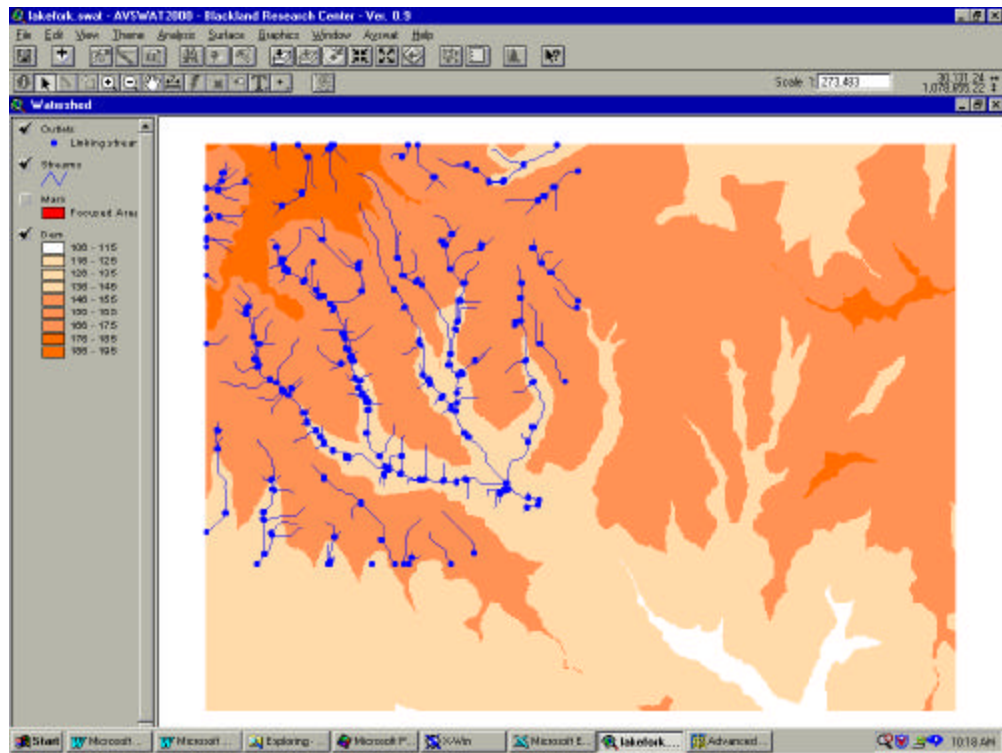
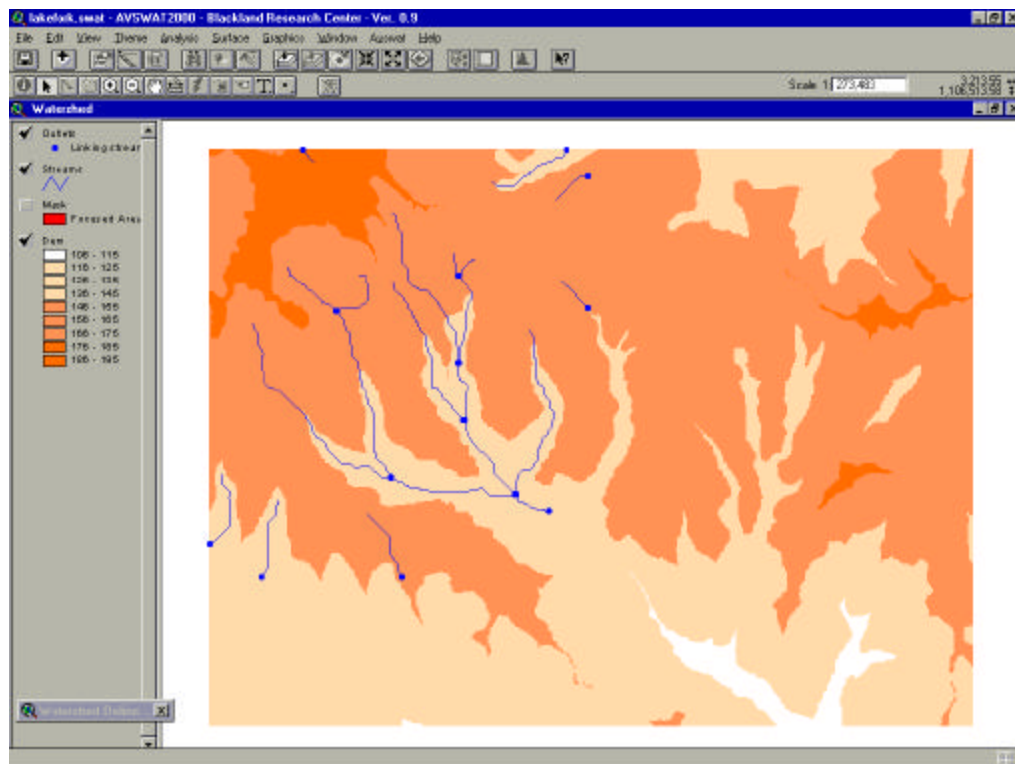

Figure 15.19
Figure 15.20
14. Once the elevation map has been preprocessed, the threshold area used to define the origin of a stream needs to be specified. The smaller the number, the more detailed the stream network generated by the interface. Figure 15.19 shows the stream network generated with the threshold set to 100 ha, while Figure 15.20 shows the stream network generated with the threshold set to 1000 ha.
15. The stream network will be displayed upon completion of the calculations (Figure 15.20). Subbasin outlets defined by the junction of two streams are denoted on the network by blue dots.